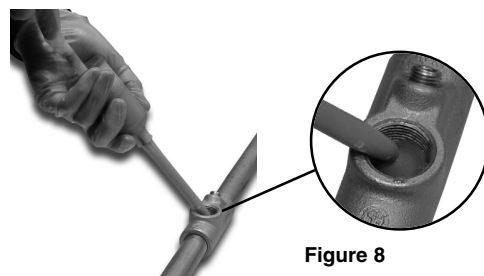

Figure 8
12. Use the mixing rod to push the plunger. Inject the proper amount of sealing compound material into the fitting through the EYS threaded opening. See Table 1 at the beginning of installation instructions for proper amount of material. Cartridge is marked with incremental 1 ounce segments. See Figure 8.